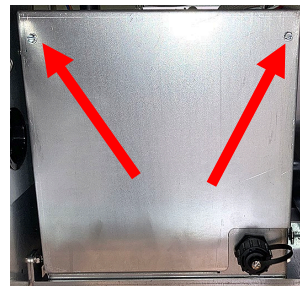

Figure 10
10. Remove the FIB box cover by removing the two (2) 1/4" screws attaching the cover and lifting up on the cover to remove (see Figure 10).